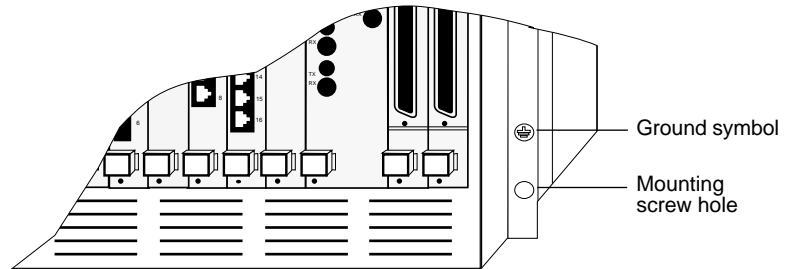

Figure 3 Ground Symbol for Static Discharge
- Always wear the ESD wrist strap provided with the module, ensuring that it makes good skin contact and that the alligator clip is connected to a suitable ground. See Figure 3 on page 7.
- 1 Discharge yourself of static electricity by placing the ESD wrist strap on your wrist and clipping the alligator clip to the mounting screw located next to the black ground symbol on the system's right mounting bracket. See Figure 3. If your system does not have mounting brackets, touch the rear panel.